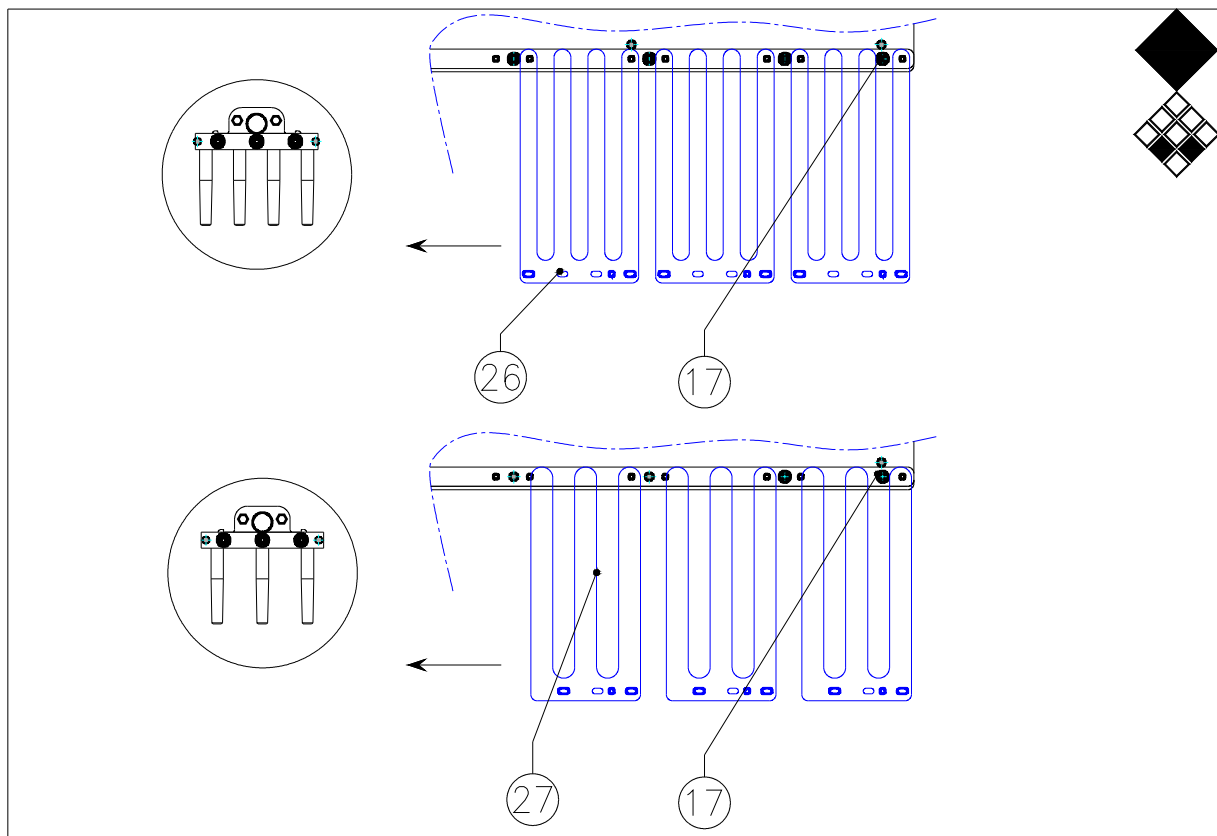

fig.9
3.1.1 Reversed mounting the fingers for the 3- or 4-tine holder (fig.9)